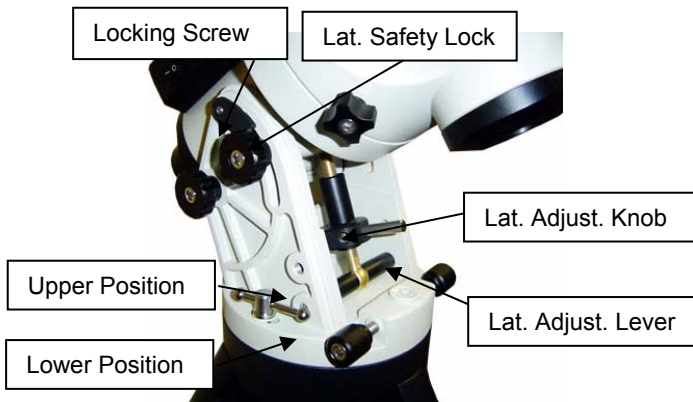

Figure 11
3. **Set the Latitude:** Unlock the four R.A. Clutch Screws and rotate the mount 180° around the R.A. axis (**Figure 10**) to move the dovetail face upside. Tighten the R.A. Clutch Screws. Un-screw the Altitude Adjustment Lever from Altitude Adjustment Knob (**Figure 11**). Turn the Latitude Adjustment Knob to set your current Latitude, which is displayed in Latitude Mark Window. Use the Lever for fine adjustments as needed. Always set the latitude without the load.
If your latitude is between 5° to 40°, set the Latitude Adjustment Knob to the lower position. A Latitude Safety Block has to be installed (**Figure 11**)